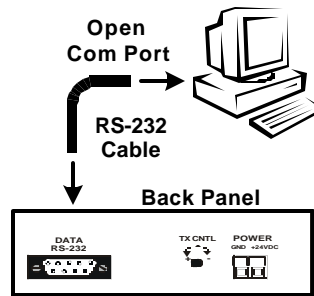

Figure 4 Connecting computer to the Activator
- 3: Attach the other end of the RS-232 cable to an open com port on the computer (Figure 4).